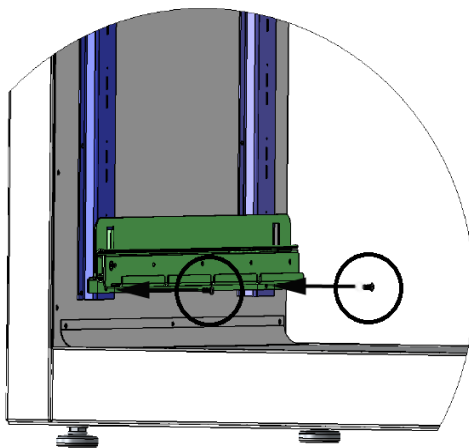
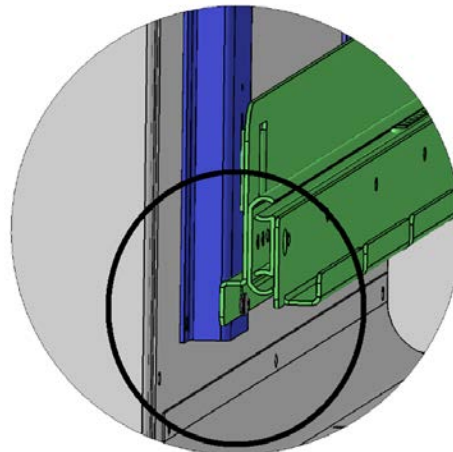

Figure 9: Sliding Mounting Bracket Screws
Figure 10: Front Screw Installed
3. Screw in the included screws on the front and back of the flange located on the bottom of the bracket. See Figure 9 and Figure 10.